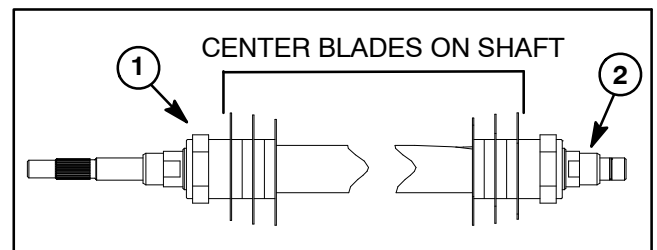

Figure 17
4. Position lock nuts to allow blades and spacers to be centered on the shaft (Fig. 17). Torque lock nuts from **200 to 250 in-lb (23 to 28 N-m)** so spacers are **not** free to rotate.